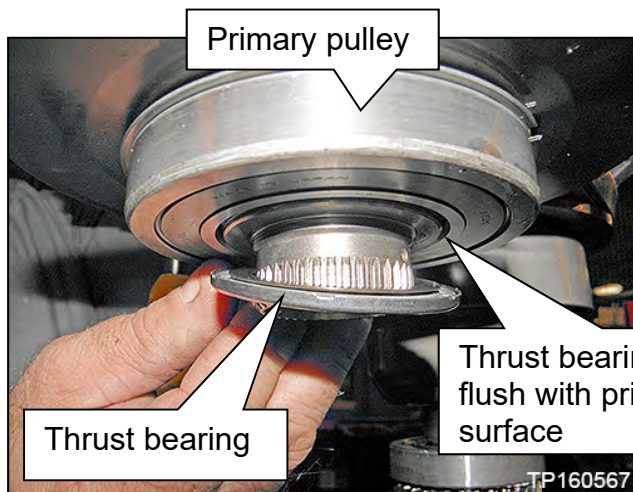

Figure 89
71. Install the original thrust bearing on the primary pulley of the new sub-assembly (Figure 89).